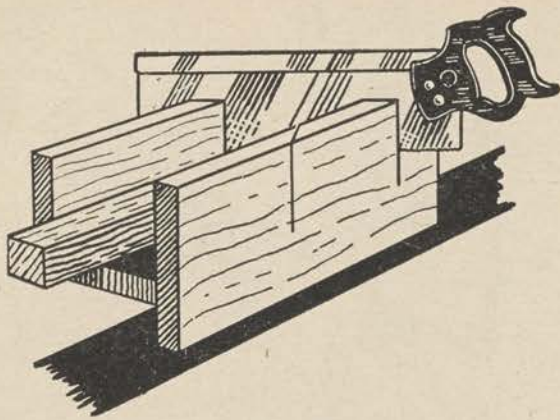

Figure 73.
d. A 14-point back saw is a valuable tool for fine work, especially when used with a mitre box (fig. 73). The latter can be of the improvised type shown, or it may be one of the more accurate metal ones sold commercially. It not only helps in cutting angles but also holds the saw vertical so that the edges of the cut are square.